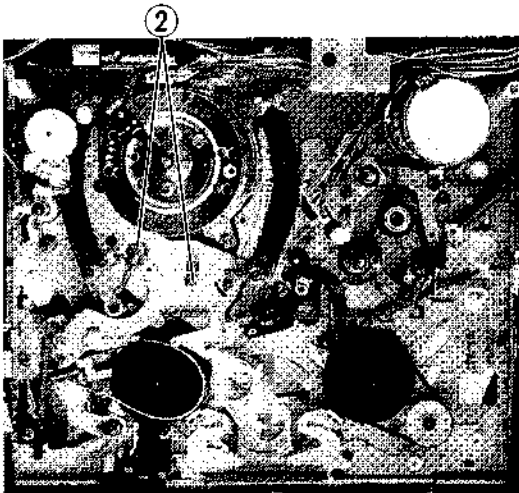

Fig. 16 Top View of Mechanism
27. Loading Gear Assembly (Figs. 16 and 17)